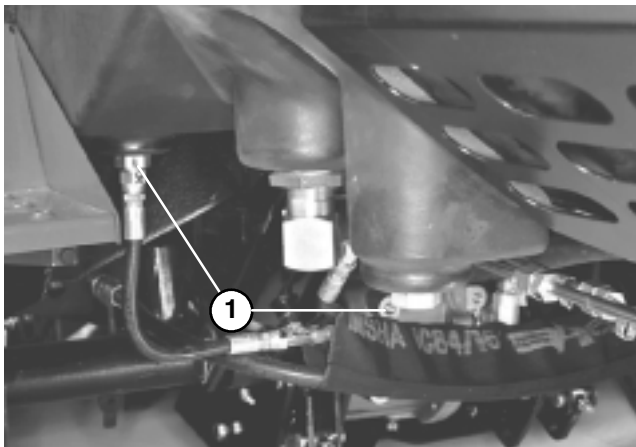

Figure 36
CHANGING HYDRAULIC OIL (Fig. 36 & 37)
2. Remove drain plug from rear of reservoir and hydraulic line from front of reservoir (Fig. 36) and let hydraulic oil flow into drain pan. Reinstall and tighten plug and line when hydraulic oil stops draining.